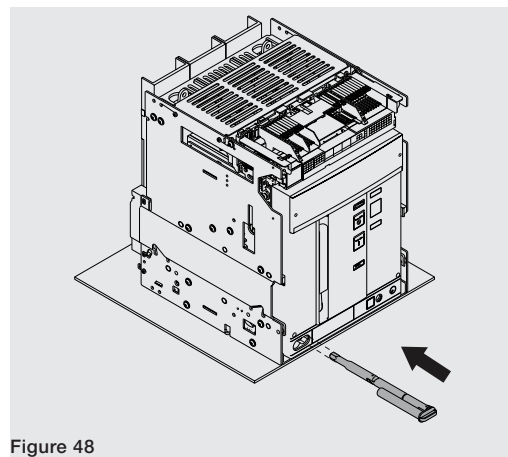

Figure 48
12. Replace the crank in its housing See Figure 48.